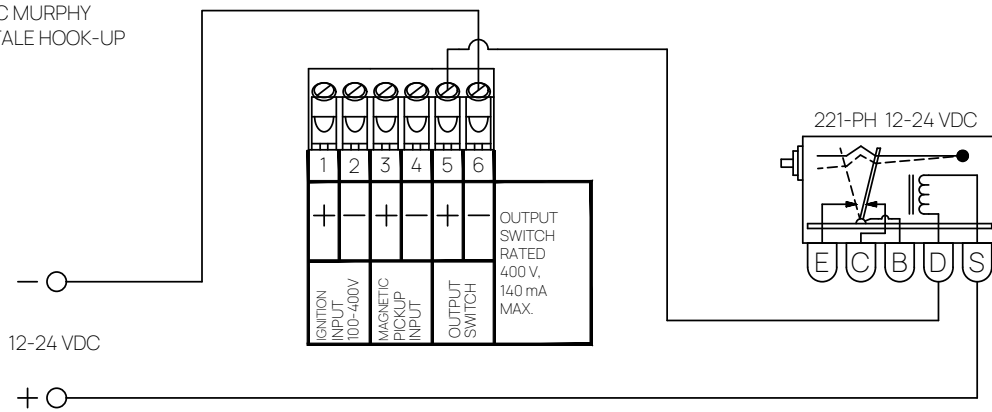

FIG. 10 – DTHO: PNEUMATIC VALVE
- FIG. 10 Wiring Diagram – Pneumatic Valve